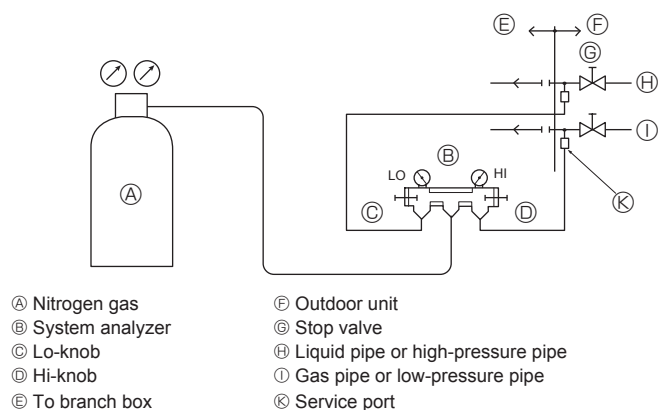

Fig. 4-11
4.7. Refrigerant pipe airtight testing method (Fig. 4-11)